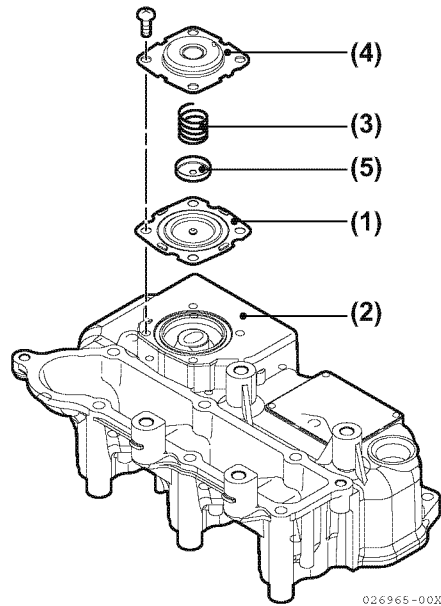

Figure 5-18
The TNM engines use a crankcase breather system that has a spring-backed diaphragm (Figure 5-18, (1)) in the valve cover (Figure 5-18, (2)). When the crankcase pressure reaches a predetermined value, the diaphragm opens a passage that allows crankcase fumes to be routed to the intake manifold.
To inspect the diaphragm and spring (Figure 5-18, (3)):
1. Remove the bolts retaining the diaphragm cover (Figure 5-18, (4)).
2. Remove the diaphragm cover, spring, diaphragm plate (Figure 5-18, (5)) and diaphragm.